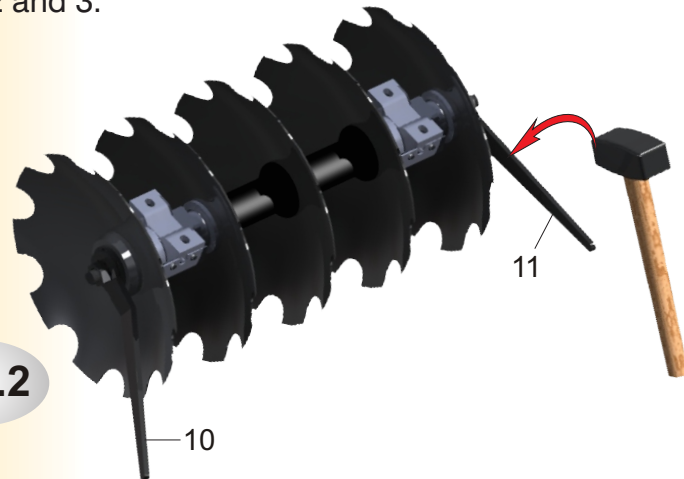

Fig.2
Once this is done, with the wrench (10) and its handle standing on the ground, tighten with the wrench (11) from the external side of the disc (use a 5 kg mallet approximately and about 70 cm of wire) until reaching maximum torque, seeking to coincide the holes of the nut with the holes of the external abutment. This nut should be locked. Use the screw (8) to lock it. Figures 2 and 3.